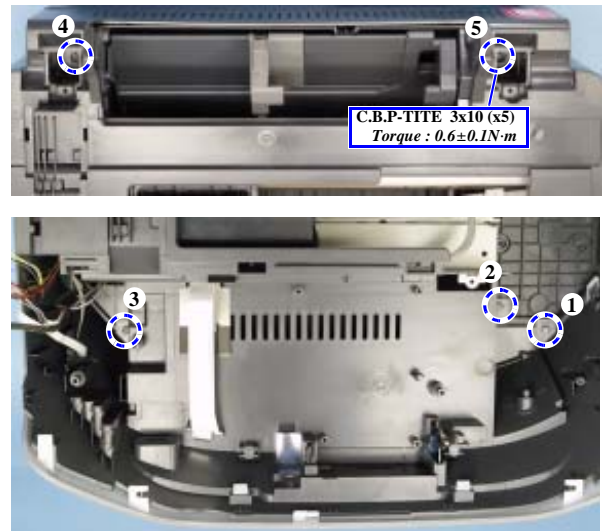

Figure 4-21. Removing the Middle Housing Assy
4. After checking the following conditions, tighten the screws in the order specified. (See Figure 4-21)